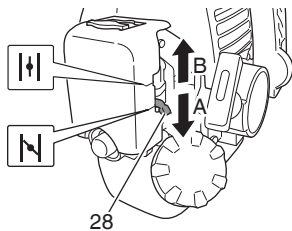

Fig. 17
(3) Set choke lever (28) to START position (closed) (A). (Fig. 17)
(5) When you hear the engine want to start, return choke lever to RUN position (open) (B). (Fig. 17)